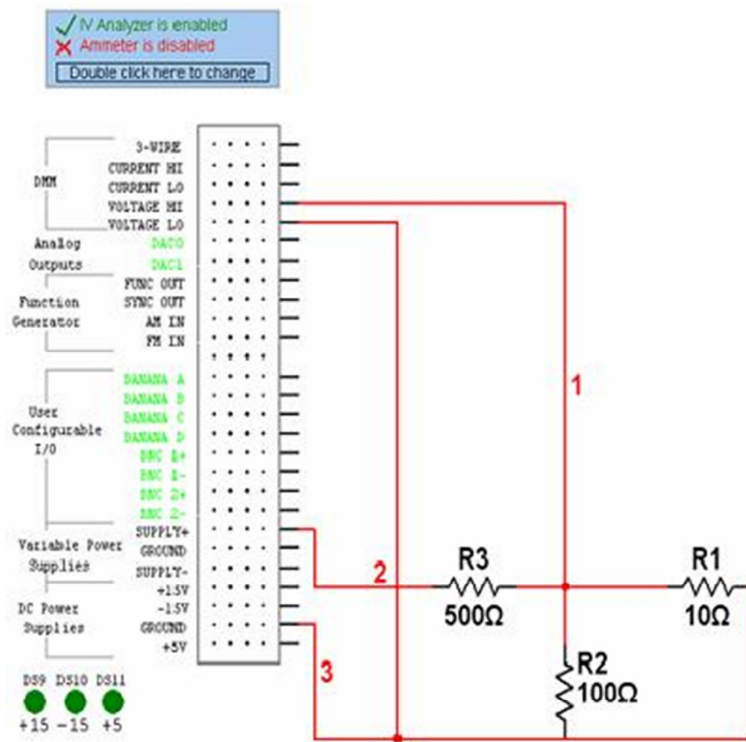

Figure 7
- Construct the circuit as shown in Figure 7.
- Complete the table below figure 7.